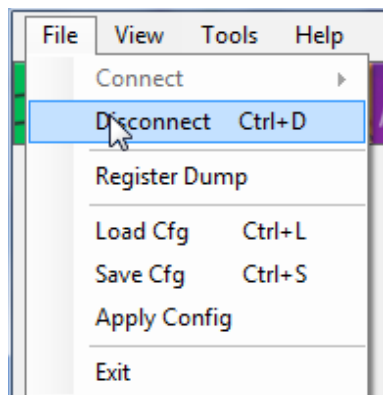

Figure 51. Disconnecting the EVAL-ADPD105Z-GEN
1. Disconnect the device via **File > Disconnect Ctrl+D**, shown in Figure 51.